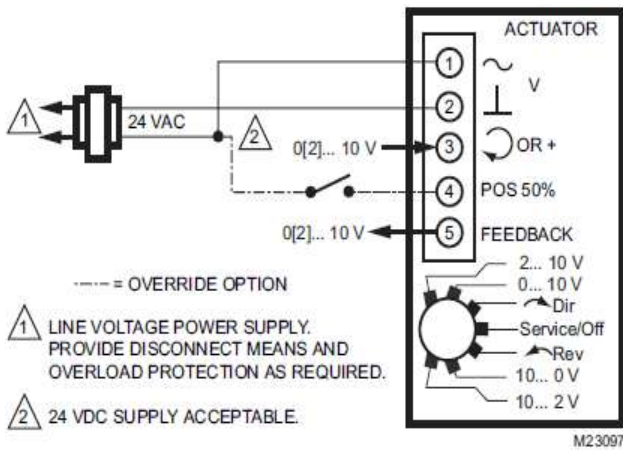
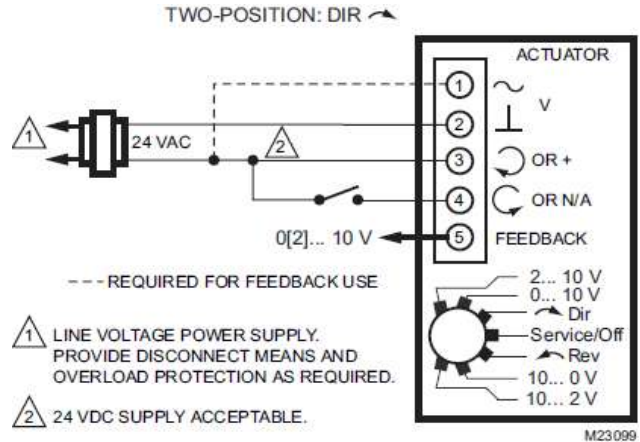

Figure 13. MN7510 (Modulating Mode)
Figure 15. MN7510 (2-Position Mode).
2. Perform the wiring of actuator using Figure 13 to Figure 15 as per the required application.
If the function selection switch has been set to one of the four modulating control settings - and if the actuator is wired correspondingly (see Figure 13) - then as soon as operating power is applied, the shaft adapter will run first completely counterclockwise and then completely clockwise, after which it will run according to the control signals applied.
Use the above flow curve with given actuator control signal settings to configure 6-way valve for Sequence 1 (cooling), Sequence (2), and Off-position. Note that in Figure 13 it is shown how to override the actuator with a switch on wiring terminal 4 to go to the 50% position. This may also be used to rotate the valve to the zero (closed) position.
The MN7510A2001 can be overridden to the 50% position by applying a 24 V signal to terminal 4 (see Figure 13.) With 24 V signal applied the actuator will ignore the control signal at terminal 3 and instead drive to the 50% position closing both Sequence 1 and Sequence 2.
If correspondingly wired via terminal 5 (see Figure 13 to Figure 15), the actuator provides a feedback signal proportional to the actual position of the shaft adapter.